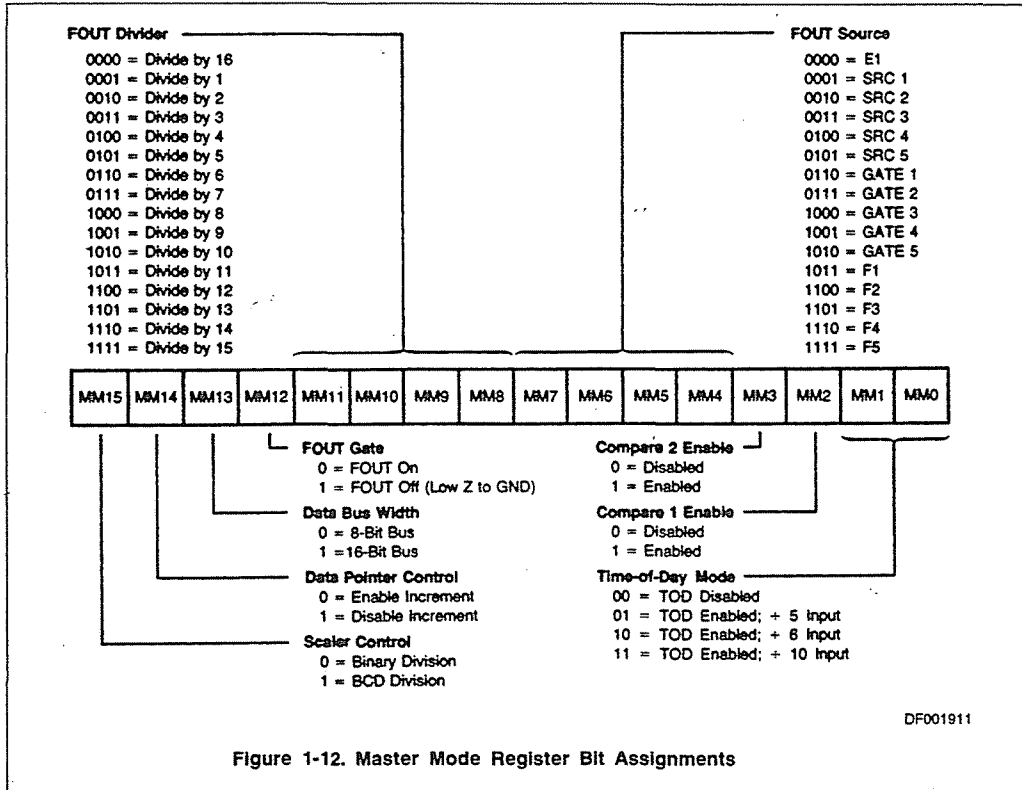

Figure 1-12. Master Mode Register Bit Assignments
The 16-bit Master Mode (MM) register is used to control those internal activities that are not controlled by the individual Counter Mode registers. This includes frequency control, Time-of-Day operation, comparator controls, data bus width and data pointer sequencing. Figure 1-12 shows the bit assignments for the Master Mode register. This section describes the use of each control field.